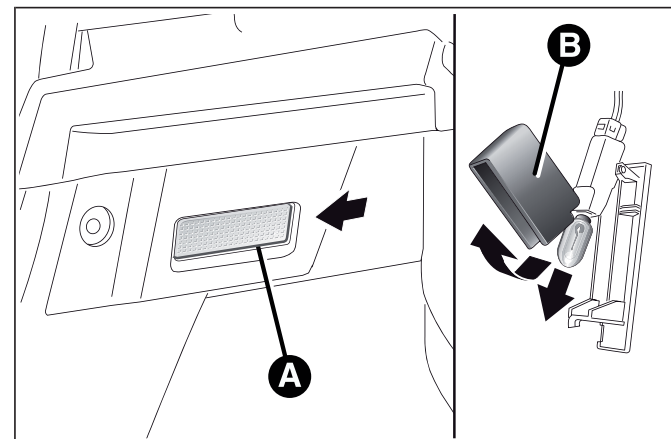

fig. 141
- open the luggage compartment and extract the roof light A fig. 141 working in the point shown by the arrow;